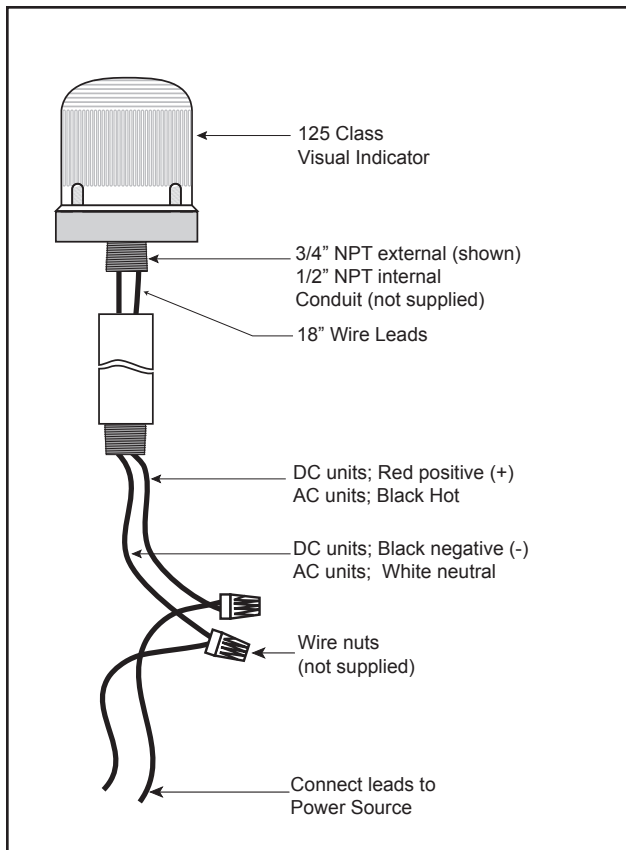

Figure 1. Conduit Mounting (3/4" Shown)
### Conduit Mounting (Figure 1)
3. Using wire nuts (not supplied), connect the signal's wire leads as shown in Figure 1. Polarity must be observed for DC models. For AC models, polarity is not important.
1. **Conduit Mounted Modules:** Disconnect wiring and, if necessary, unscrew base from conduit (Figure 1).